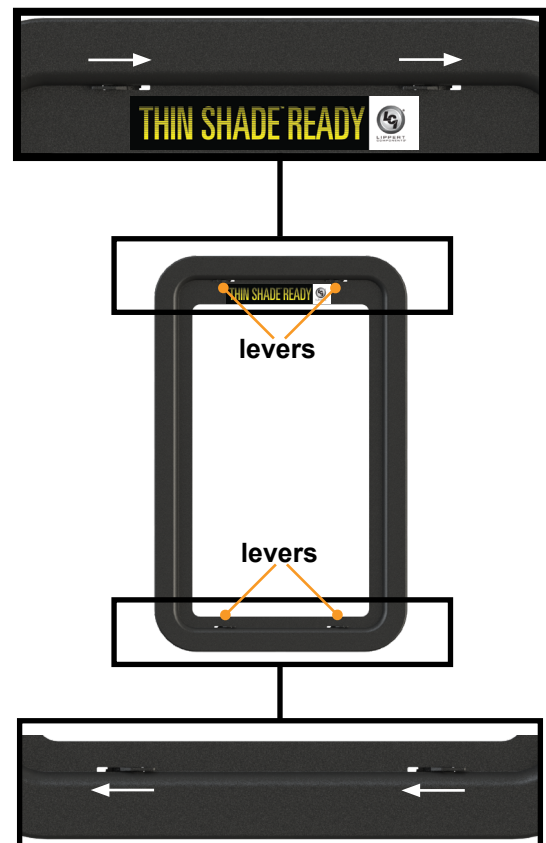

Fig.1
NOTE: The Thin Shade can be installed as shown in Fig. 1 to close from top to bottom of the window or flipped vertically to close from bottom to top. Installation is the same in either orientation.
1. Unlatch the small levers at the top of the window frame in a left-to-right direction (Fig.1).
2. Unlatch the levers at the bottom of the frame in a right-to-left direction (Fig.1).